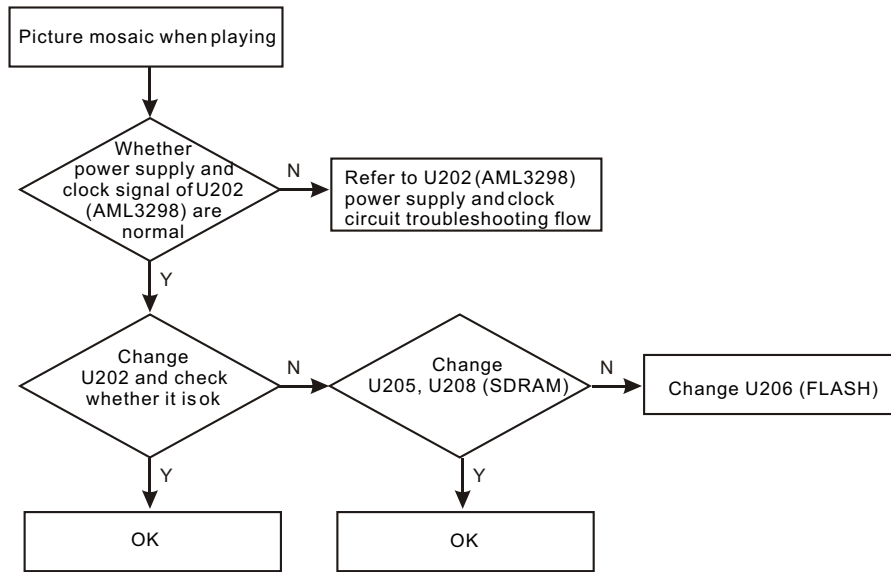

Figure 3.3.2.15 Troubleshooting flow chart for “picture mosaic when playing”
(3) Troubleshooting flow for “no colour for image” is shown as the following figure 3.3.2.16: